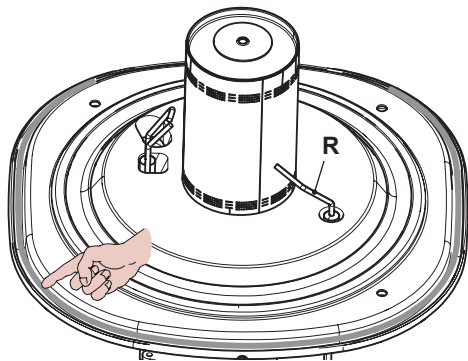

Fig. 9.13
- The silicon gasket on the front panel of the combustion chamber Fig. 9.13 has to be changed when deteriorated and in any case
- The detection electrode R in Fig. 9.13 also functions as a sensor for the correct drainage of the condensate.